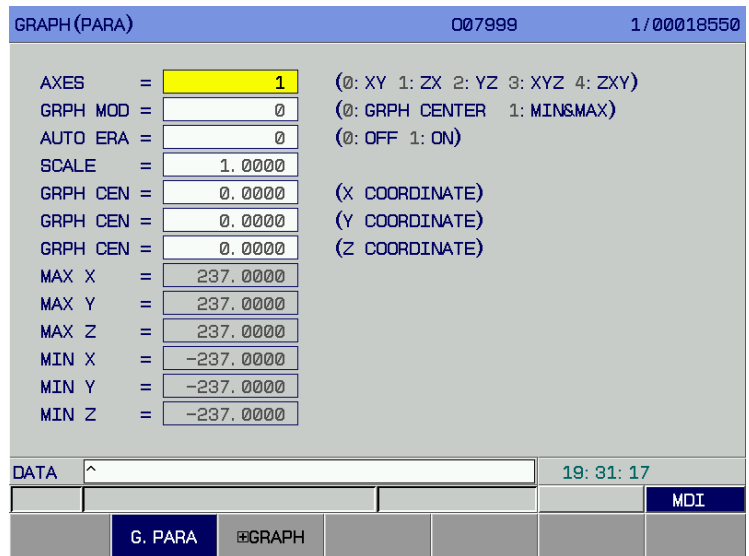

Fig. 3-5-1
Press the  key to enter the graphic page including two display interfaces: **[Graphic parameter]** and **[+ Graphic]** which are switched and displayed by the corresponding soft keys: Details are shown in Fig. 3-5-1.
1) For the graphic parameter interface, press the [Graphic parameter] soft key to enter the graphic parameter interface, as shown in Fig. 3-5-1.